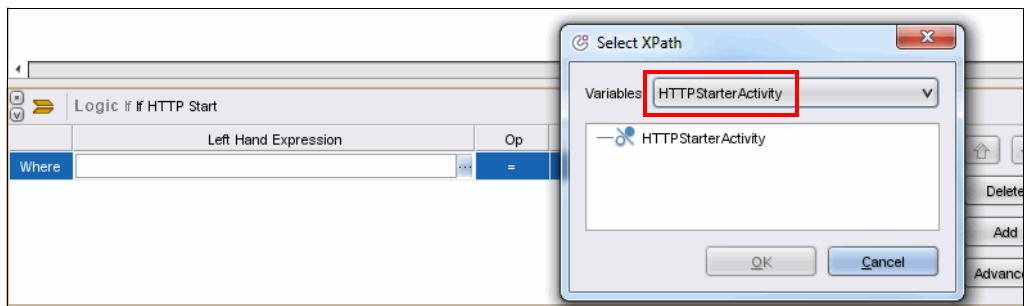

Figure 11-31 Setting of Left Hand Expression for If activity
- Select **HTTPStarterActivity** in the drop-down list shown in Figure 11-31. Select the variable **HTTPStarterActivity**, and click **OK**.